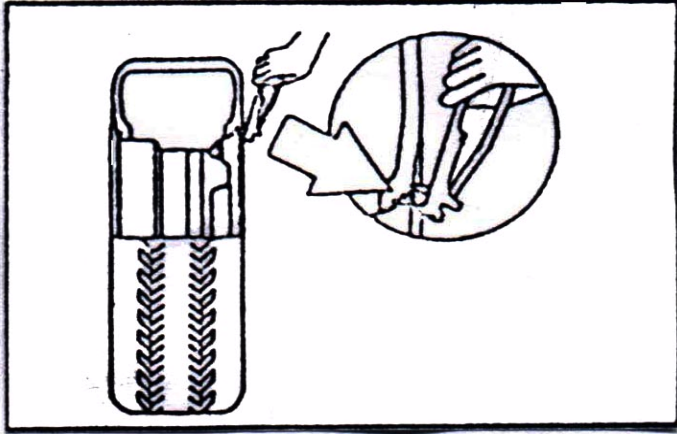

FIG18
4.1.1 Deflate the air in the tire completely and pull out the core. Use the special tool to detach the weight on the rim ( FIG18).